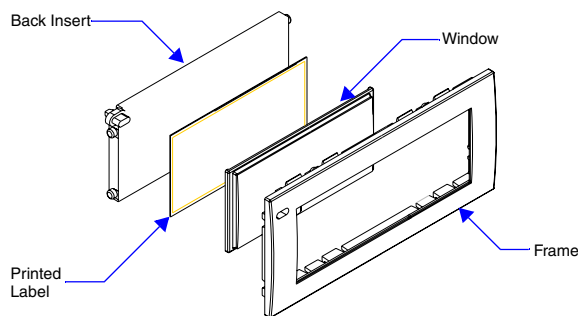

FIG. 4 Prestige Button Components
4. The Prestige buttons are comprised of three parts, the frame, window, and back insert. From the front of the button, use your thumb to poke the window and back insert out of the frame. See FIG. 4.